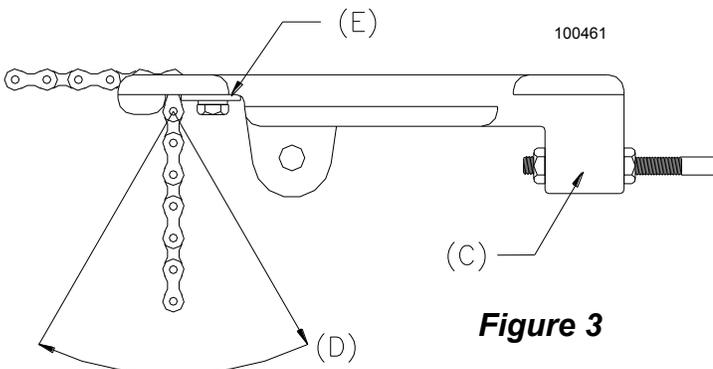

Figure 3
3) Referring to Figure 1, 2 and 3 (below), slide the trolley onto the track with the chain take up bolt lug (C) toward the power head. Thread one 3/8-16 keps nut (attached star washer) onto the Chain take up bolt with the keps part (attached star washer) away from the chain attachment end. Insert the chain take up bolt threaded end through the lug hole on the trolley (C) just far enough to start a second 3/8-16 keps nut. Attach one end of the chain to the opposite end of the threaded stud using a 3-piece chain link (provided). See Figures 3 & 4.